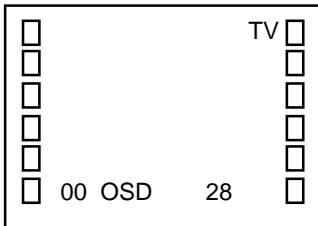

Fig. 1-1
1. In the condition of NO indication on the screen. Press the VOL. DOWN button on the set and the Channel button (9) on the remote control for more than 2 seconds to appear the adjustment mode on the screen as shown in **Fig. 1-1**.
4. Activate the adjustment mode display of **Fig. 1-1** and press the channel button (01) on the remote control to select "CUT OFF".
4. Activate the adjustment mode display of **Fig. 1-1** and press the channel button (12) on the remote control to select "R. BIAS".
10. If the picture is too much green. Activate the adjustment mode display of **Fig. 1-1** and press the channel button (28) on the remote control to select "CB PED".
12. If the picture is too much red. Activate the adjustment mode display of **Fig. 1-1** and press the channel button (29) on the remote control to select "CR PED".
4. Activate the adjustment mode display of **Fig. 1-1** and press the channel button **(22)** on the remote control to select "COLOR CENT".